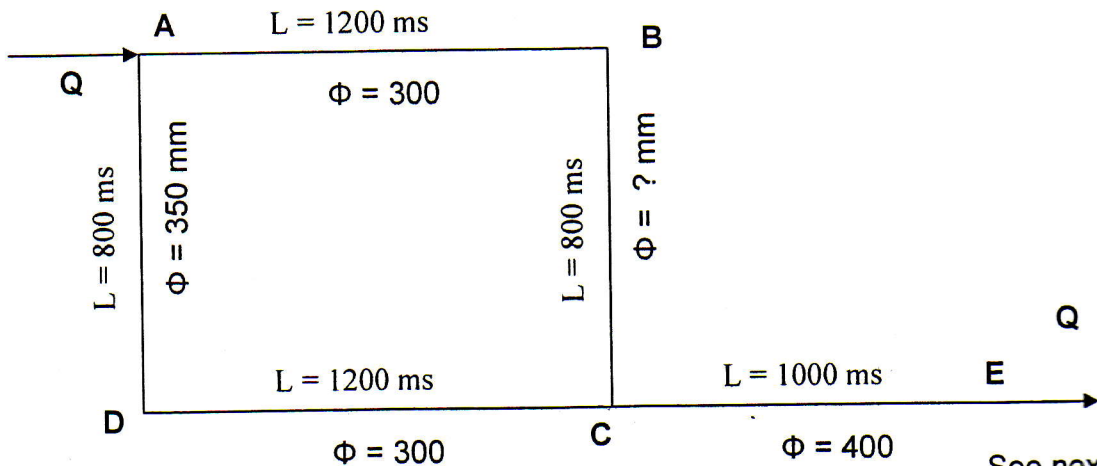

Fig. 2
b) Determine the diameter of pipeline BC in the shown network Fig. 2 of a distribution system, given the following data: